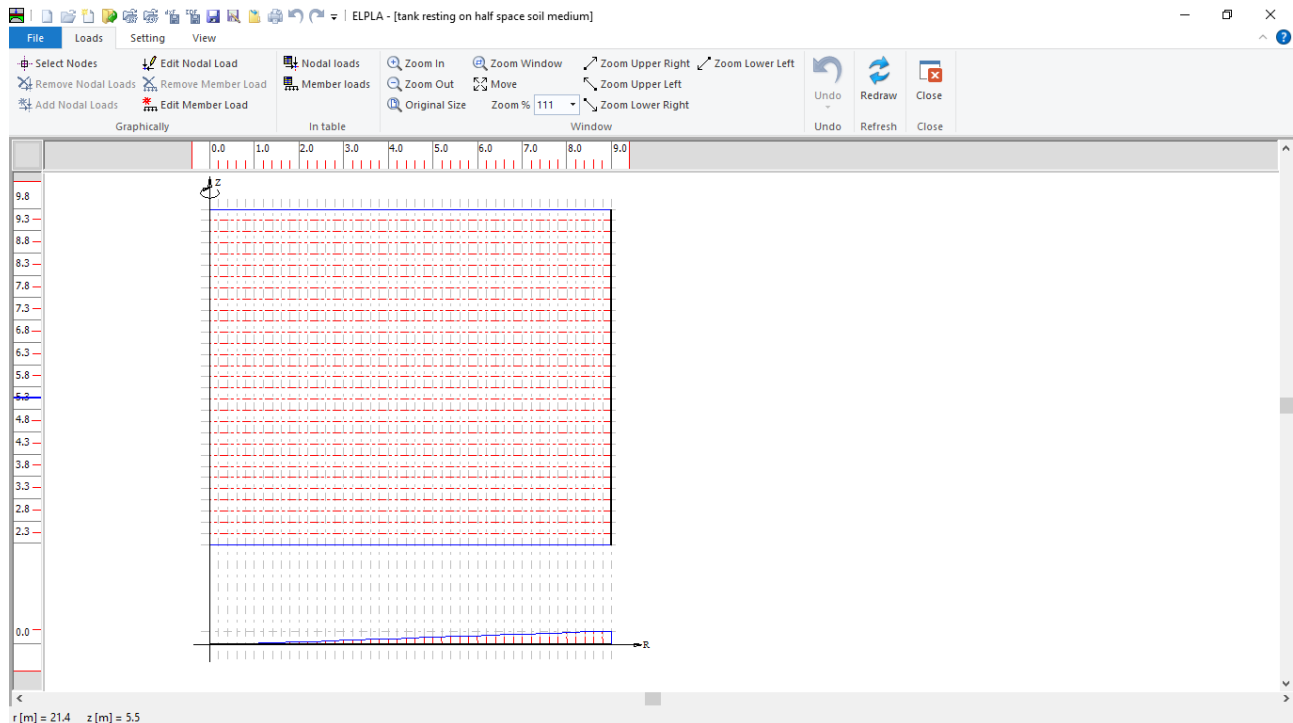

Figure 8.17 "Loads" Window
To define the loads, choose "Loads" command from "Data" Tab. The following window in Figure 8.17 appears. In *ELPLA*, entering loads may be carried out either numerically (in a table) or graphically using the commands of "Loads" Tab in Figure 8.17. In this example, there is not applied load, as the vertical load has been already defined by the unit weight of the tank material, while the hydrostatic pressure on the tank wall is defined by the unit weight of water.
- Choose "Save" command from "File" menu in Figure 8.17 to save the load data
- Choose "Close" command from "File" menu in Figure 8.17 to close the "Loads" window and return to *ELPLA* main window